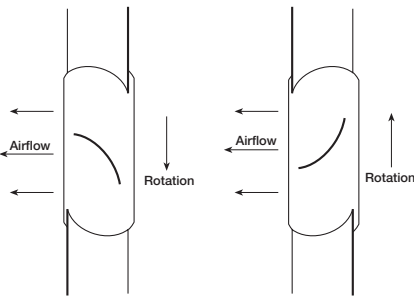
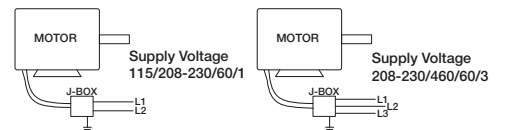

Figure 6 — Rotation Decal
Figure 11 — Typical Wiring Diagram
12. Rotation direction of the propeller should be checked momentarily by turning the unit on. Rotation should be in the same direction as the rotation decal affixed to the unit or as shown in Figure 6. For 3-phase installations, fan rotation can be reversed by interchanging any two of the three electrical leads. For single phase installations follow the wiring diagram located on the motor or see Figure 11.
2. Wire motor for desired voltage per wiring diagram on motor or refer to Figure 11 for connection wiring diagram.
2. Start the fan up and shut it off immediately to check rotation of the propeller with directional arrow in the motor compartment. Refer back to Figure 6.